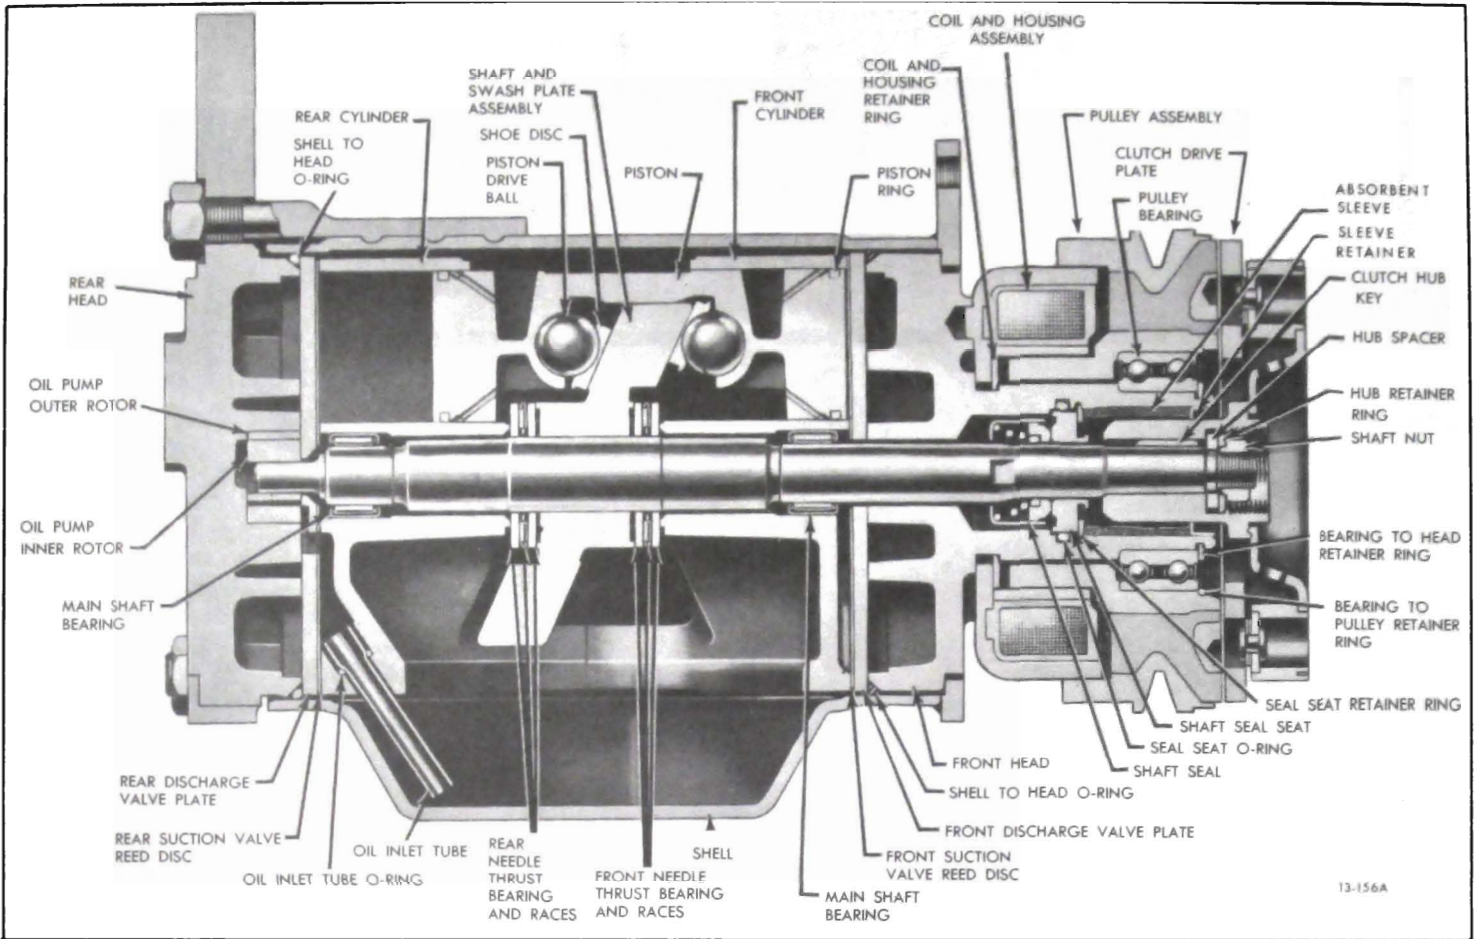

Figure 13-27 Compressor - Section View
The compressor is of basic double action piston design. Three horizontal double acting pistons make up a six cylinder compressor (see Figure 13-27). The pistons operate in 1-1/2 inch bore and have a 1-1/8 inch stroke. A swash plate keyed to the shaft drives the pistons. The shaft is belt driven through a magnetic clutch and pulley arrangement. An oil pump mounted at the rear of the compressor picks up oil from the bottom of the compressor and lubricates the bearings and other internal parts of the compressor.
4. Shaft and Swash Plate Assembly - The shaft and swash plate assembly (see Figure 13-27) consists of an